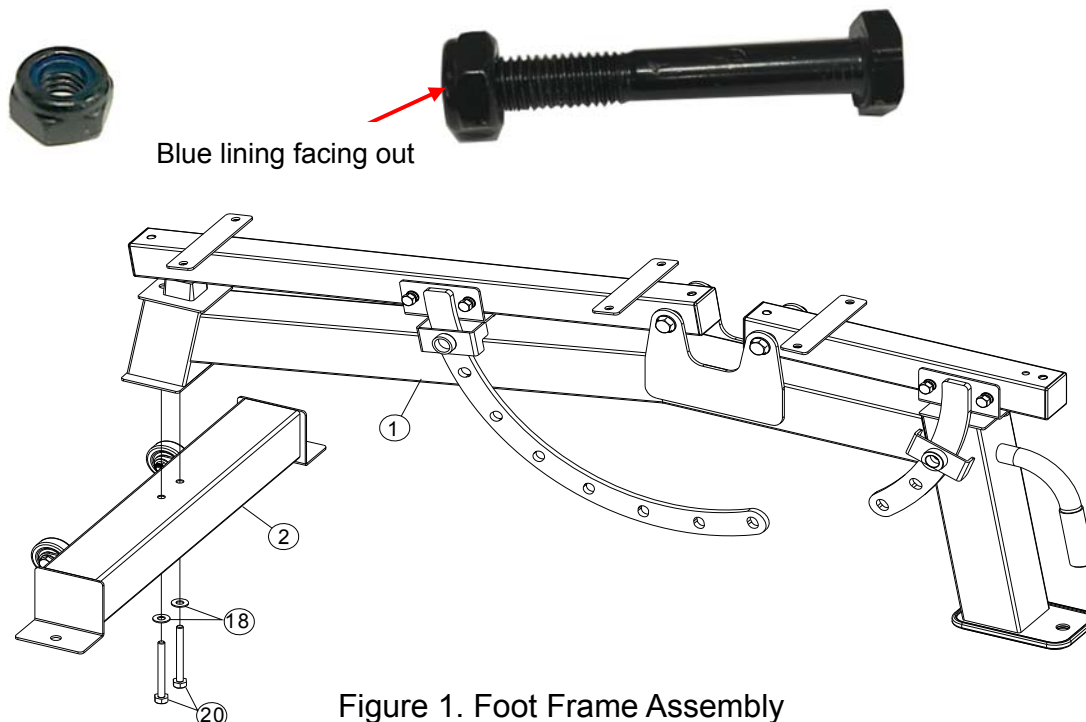

Figure 1. Foot Frame Assembly
STEP 1 (See Figure1.)
- Attach the Rear Base Frame (2) to Mainframe (1) using two Hex Head Bolts (20) and two Washers (18).